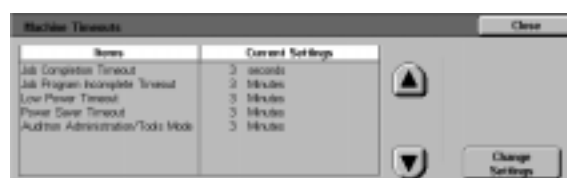

Figure 54: Timeouts screen
- 1 On the Tools screen, touch the **Machine Timeouts** icon to display the Timeouts screen, as illustrated in Figure 54.